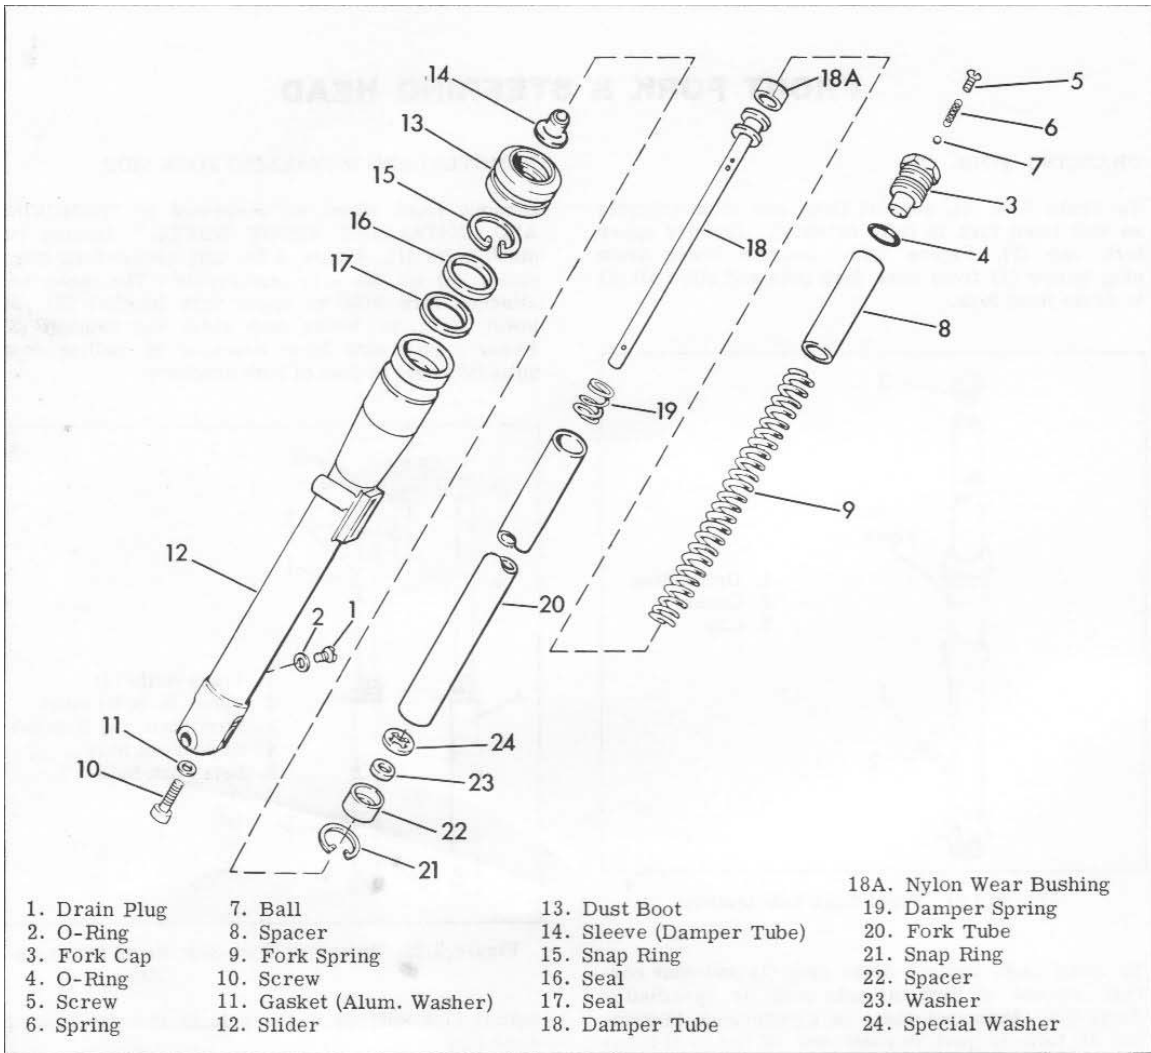
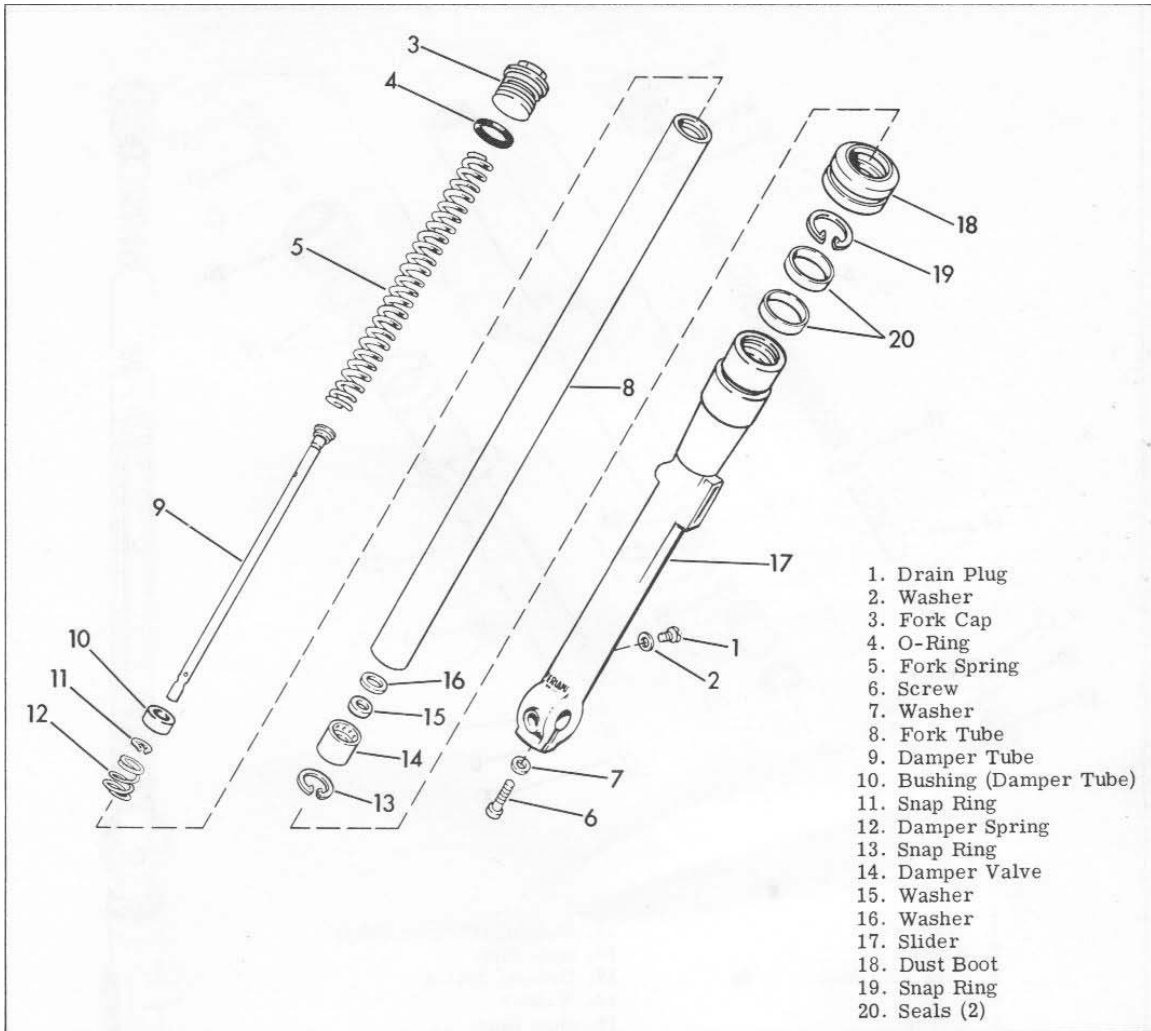

Figure 2.23. Marzocchi Fork - Exploded View
Figure 2.24. Ceriani Fork - Exploded View
Remove fork cap (3), Figure 2.23, and drain fork oil from tube by tipping it upside-down. Then, disassemble as follows. Note that both fork sides are similar and are taken apart the same way.
Remove fork cap (3), Figure 2.24, and drain fork oil from tube by tipping it upside-down. Then, disassemble as follows. Note that both fork sides are similar and are taken apart the same way.
Assemble springs (19), Figure 2.23, and (12), Figure 2.24, into their respective fork tubes with large diameter end of springs positioned downward or in first. Spring (17), Figure 2.25, has a uniform diameter and can be assembled with either end downward.
Assemble spring (6), Figure 2.25, into fork tube with close wound end positioned downward or in first. Springs (9), Figure 2.23, and (5), Figure 2.24, are uniformly wound and can be positioned with either end downward.
end of damper tube is tight. These screws are (10), (6), and (7) in figures 2.23, 2.24, and 2.25, respectively.